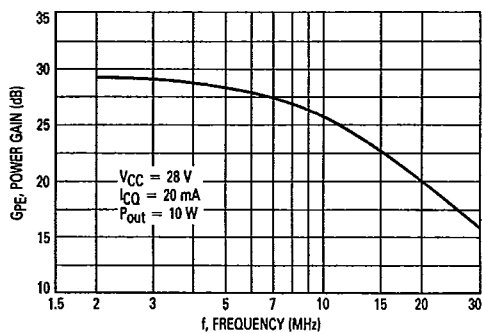

Figure 4. Power Gain versus Frequency
- T1 — RF Transformer 9:1 Impedance Ratio. See Motorola Application Note AN749, Figure 4 for Details. Ferrite Material: 2 each Fair-Rite Products Corporation 2643006801